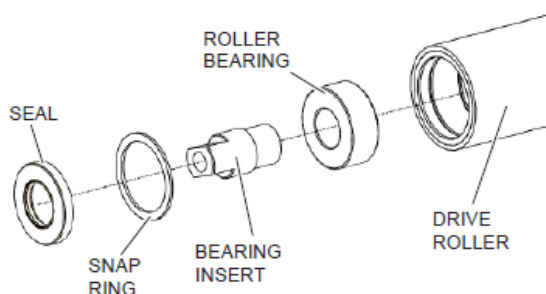

Figure 65
3. Use a slide hammer to remove the stub shaft and bearing from the roller Figure 65